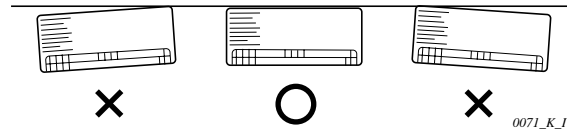

Fig. 3-52
- (2) Check with a tape measure or carpenter's level. This is important so that the unit is correctly installed. (Fig. 3-52)
- (3) Make sure the panel is flush against the wall. Any space between the wall and unit will cause noise and vibration.